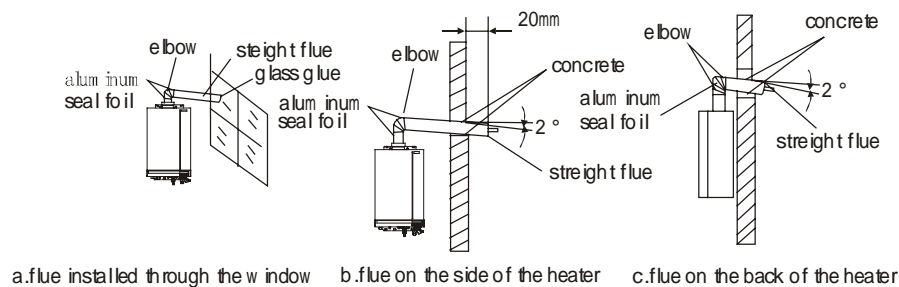

Fig.12
- Fix the elbow and the straight pipe together, and wrap and seal the joint by aluminum foil sticker. (Fig. 12)